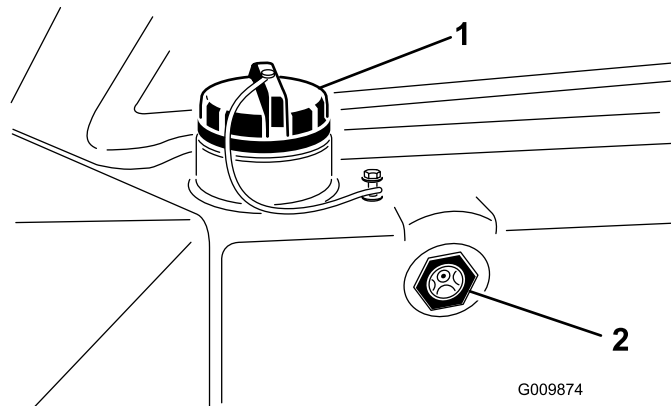

Figure 29
2. Check the fluid level by viewing it in the sight gauge (Figure 29).
4. If the fluid level is not at least at the bottom of the gauge when it is cold, remove the cap from the hydraulic fluid reservoir (Figure 29) and slowly fill the reservoir with high quality hydraulic fluid until the level in it reaches the bottom of the sight gauge. **Do not overfill.**